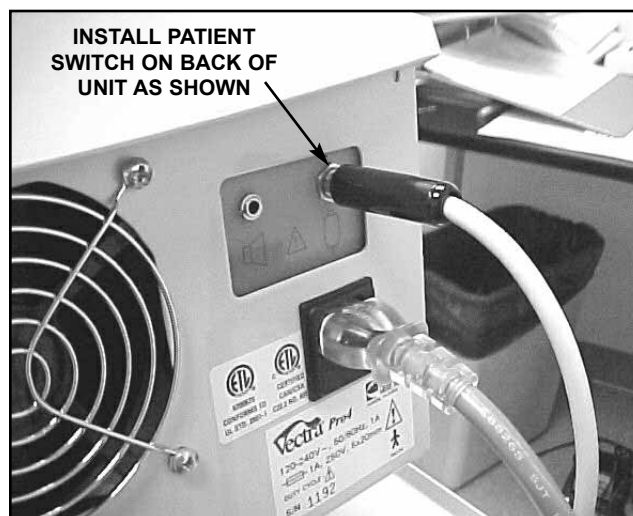

FIGURE 5.9
3. Install Patient Switch. See Figure 5.9.